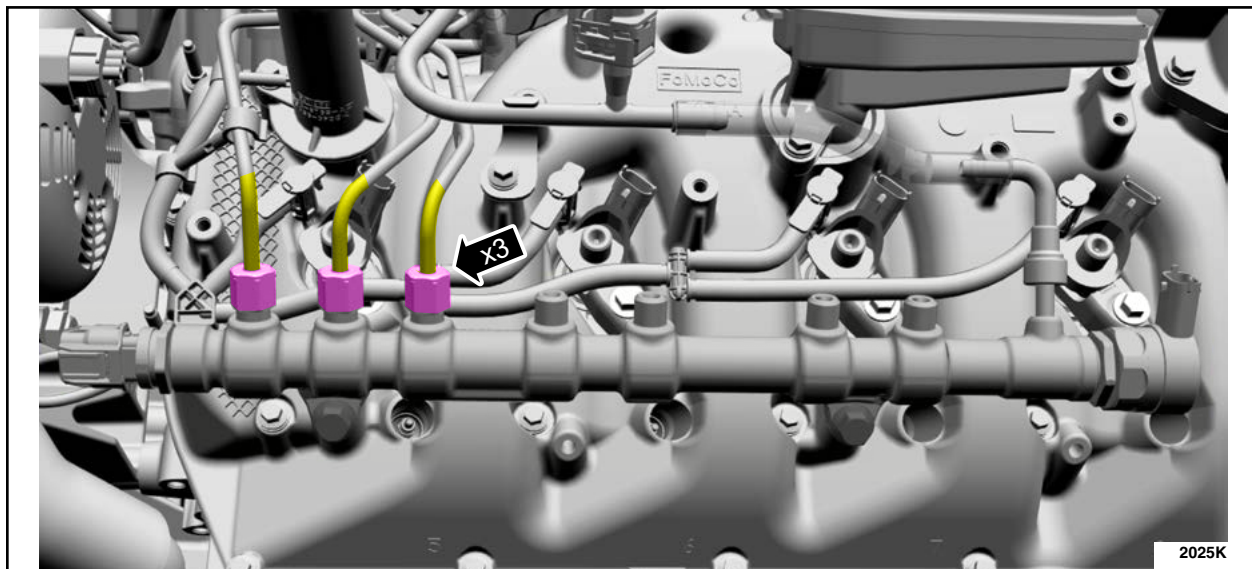

FIGURE 5
8. Loosen and disconnect the three (3) LH fuel rail supply tube fittings at the LH fuel rail. See Figure 5.
See Figures 5 and 14.